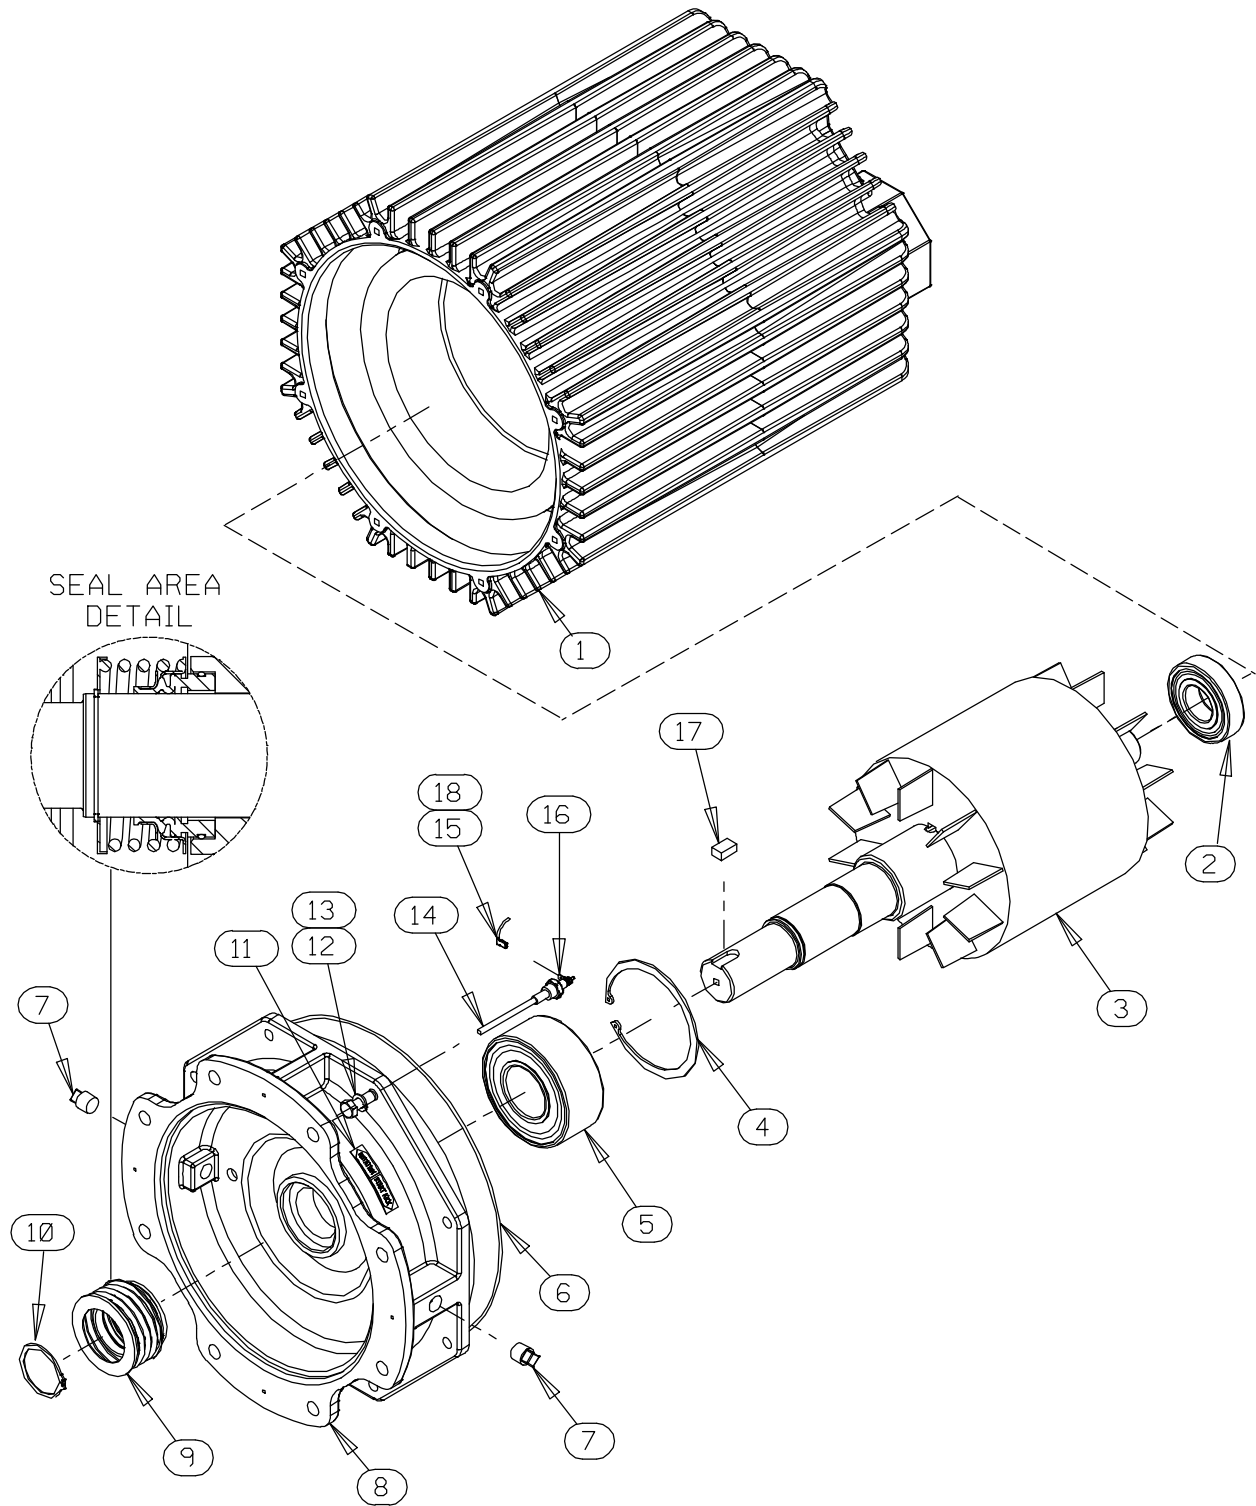

Figure E-2. Motor Assemblies
(Figure E-2)
To remove the impeller, use two thin-bladed screwdrivers positioned 180° apart to pry on the back of the impeller and “walk” the impeller off the shaft. Use increasingly larger screwdrivers (or wedges) as necessary. After the impeller comes free of the shaft, retain the impeller key (17, Figure E-2).
An alternate method of removing the stationary element is to remove the screws (11) securing the seal plate (16) to the motor assembly (19). Pry the assembled seal plate and stationary element off the shoulder of the intermediate (8, Figure E-2). Remove the O-ring (17) and press the stationary element and seat out of the seal plate from the back side.
(Figures E-2 and E-3)